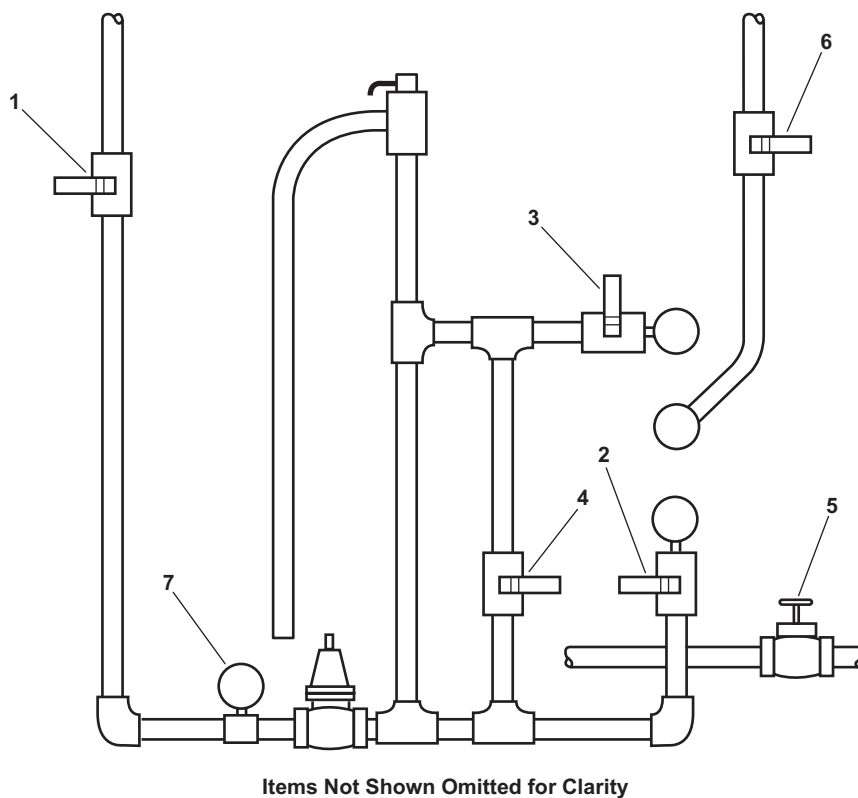

Figure 9. ROWPU System as Viewed from Starboard Side
9. CLOSE RO-V-1 (figure 9, item 1), main sea water supply.
- a. RO-V-2 (figure 9, item 2), media filter supply
- b. RO-V-3 (figure 9, item 3), media filter discharge
- e. RO-V-4 (figure 9, item 4), media filter bypass
- g. RO-V-11 (figure 9, item 5), media filter drain
- a. RO-V-10 (figure 9, item 6), media filter backflush valve
- b. RO-V-1 (figure 9, item 1), main sea water supply
3. Verify that RO-PG-1 (figure 9, item 7), general service pressure, indicates a minimum of 30 PSI (2.4 bar).
5. Slowly OPEN RO-V-2 (figure 9, item 2), media filter supply, to backwash the media filter.
9. CLOSE RO-V-2 (figure 9, item 2), media filter supply.
11. Slowly OPEN RO-V-2 (figure 9, item 2), media filter supply.
13. CLOSE RO-V-2 (figure 9, item 2), media filter supply.
- b. RO-V-4 (figure 9, item 4), media filter bypass
- c. RO-V-10 (figure 9, item 6), media filter backflush valve
15. OPEN RO-V-3 (figure 9, item 3), media filter discharge
- c. RO-V-3 (figure 9, item 3), media filter discharge
2. Slowly OPEN RO-V-2 (figure 9, item 2), media filter supply.